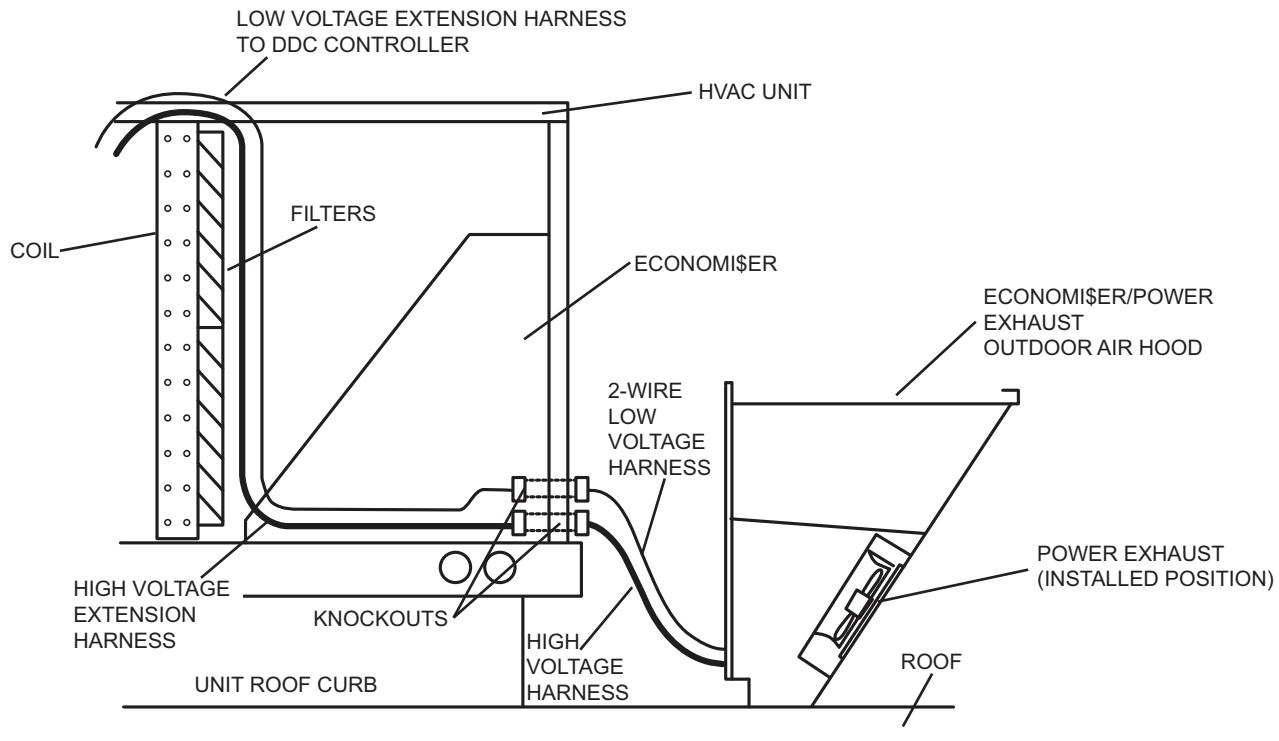

Fig. 9 — Power Exhaust Harness Installation with EconoMi\$er2 and DDC (Direct Digital Controls) Controls
3. From the rear of the EconoMi\$er2 accessory, connect the low voltage extension harness plug to the two-wire harness from the power exhaust. (See Fig. 9.)
4. Route the other end of the low voltage extension harness to the PremierLink controller. (See Fig. 9.)
7. From the rear of the EconoMi\$er2 accessory, connect the long high voltage extension harness plug to the power exhaust harness. (See Fig. 9.)